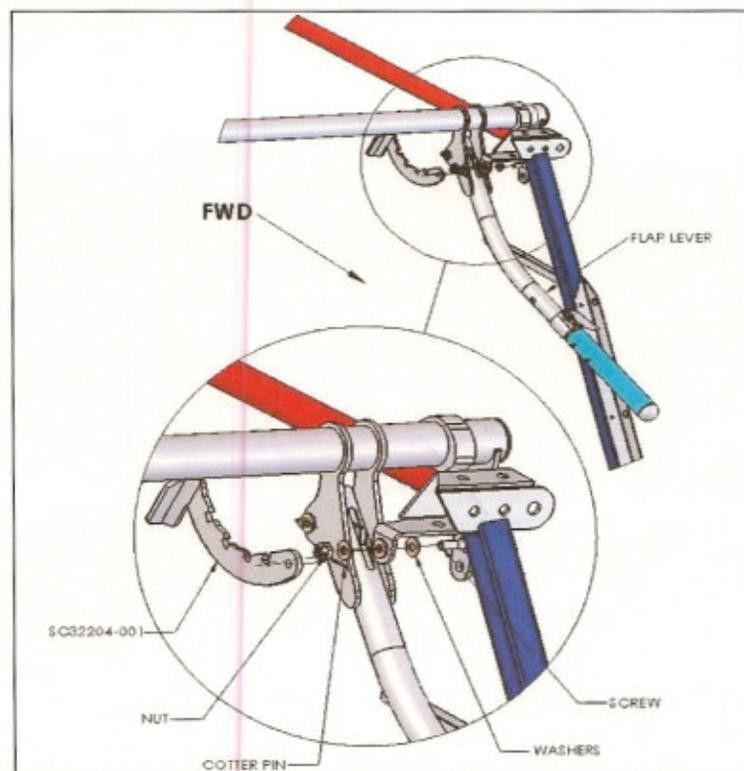

Figure 1
1. Remove existing SC32204-001 by removing hardware as shown in Figure 1. Retain hardware and discard SC32204-001 and cotter pin.